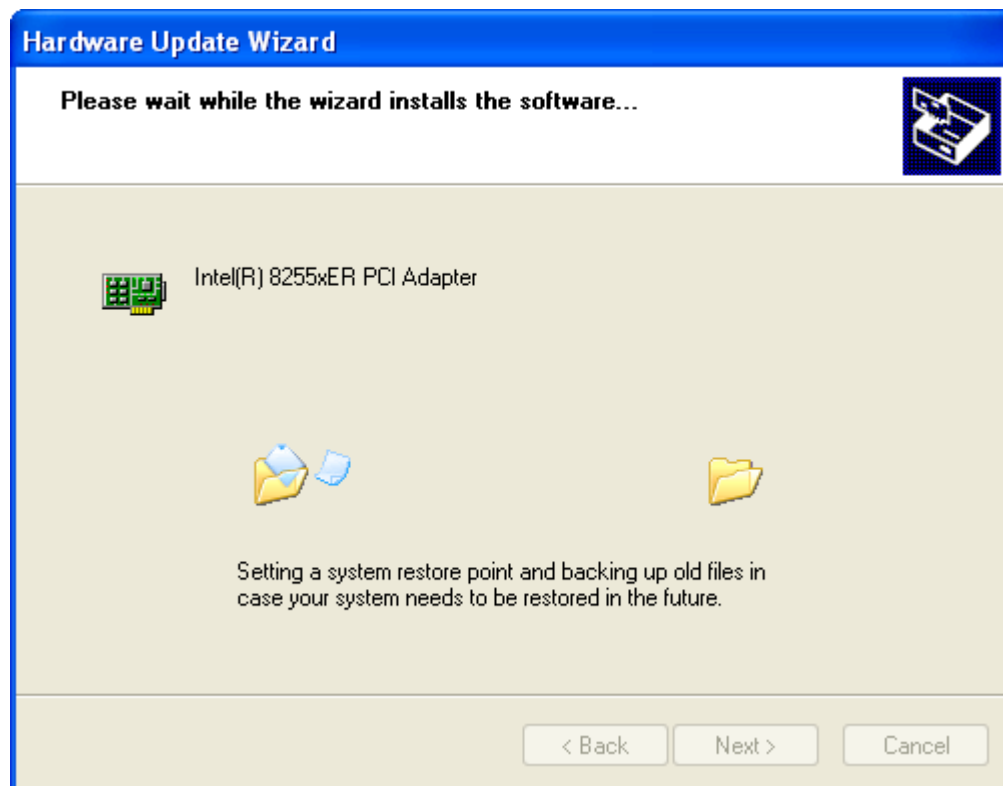

Figure 7-31: Ethernet Driver Installation
Step 13: The Wizard updates the driver. See **Figure 7-31**.